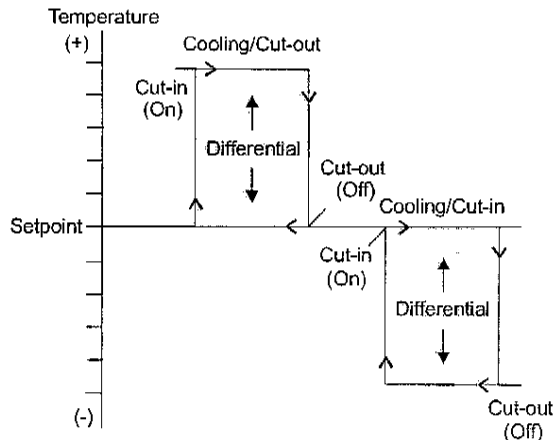

Figure 5: Cooling Modes
If Setpoint mode is set to cut-in, setpoint is the temperature at which the control closes the N.O. contacts. If Setpoint mode is set to cut-out, setpoint is the temperature at which the N.O. contacts open. Refer to Figures 5 and 6.
**Differential (dIF)** establishes the difference in temperature between cut-in and cut-out. The differential is set relative to Setpoint and may be set from 1 to 30°F or C°. See Figures 5 and 6.